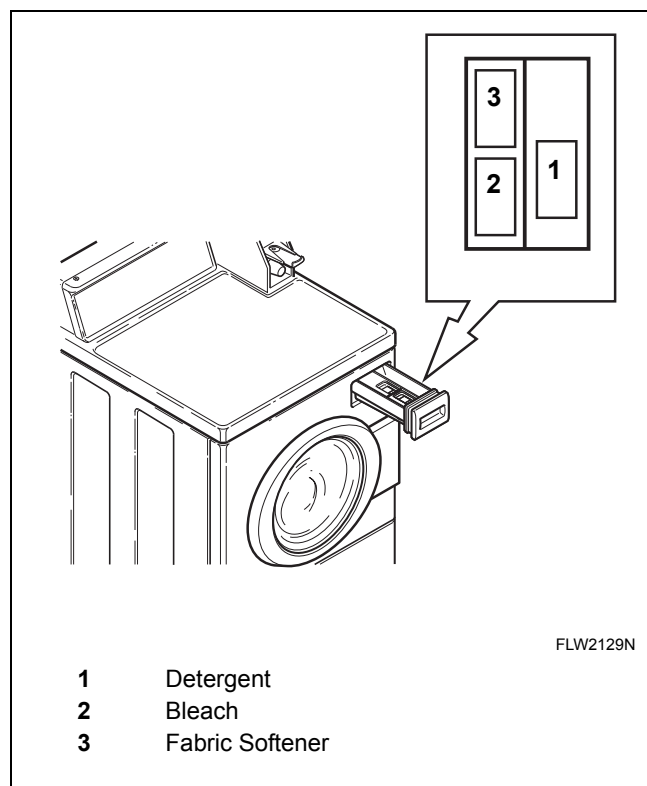

Figure 20
Open dispenser drawer. Measure and add low sudsing, high efficiency (HE) detergent (1), bleach (2) and fabric softener (3) to the dispenser drawer (refer to *Figure 20*). Close dispenser drawer.